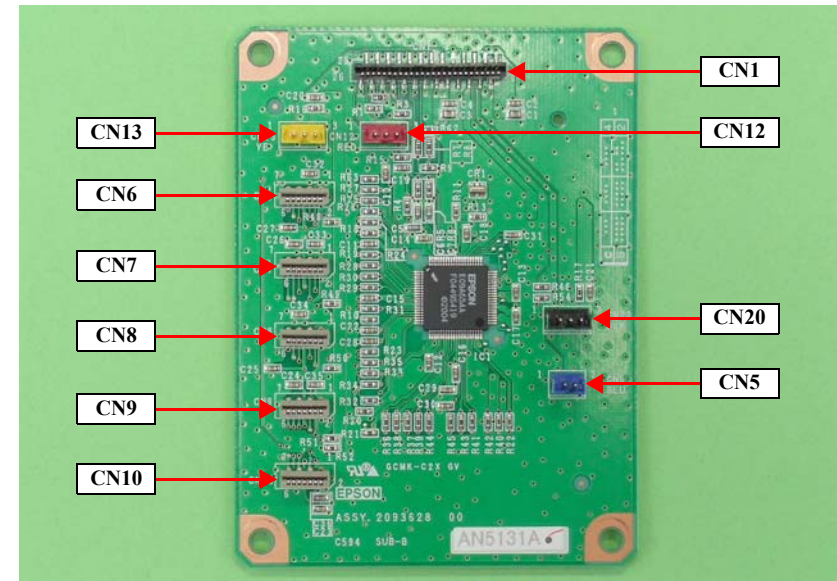

Figure 4-47. Connector Locations
2. Disconnect the all connectors and FFCs from the BOARD ASSY., SUB; B. *See Figure 4-47.*